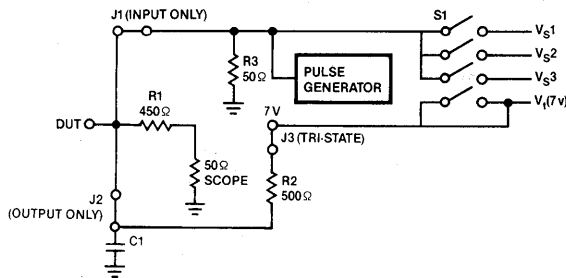

Figure 5. Signetics PCB Fixture Schematic
There are two types of signal lines on this fixture: input and output; both of which are 50Ω transmission lines. The input line is on the top side of the board and is always terminated in 50Ω . It is connected to the DUT via a .3" jumper, Jumper #1 for input. When this jumper is installed, the DUT pin is available only as an input. To allow this line to be used as an output, a .1" jumper, Jumper #1 for output, is used instead of the .3" jumper. This connects the DUT pin to the AC load when the DUT pin is an output. See Figure 5.
hard to detect errors into the waveform. The second reason being that most suppliers of these technologies provide data based upon the Low-impedance approach and most large users of these products do so as well. This also allows the fixture to be used for ECL testing since that product uses a totally 50Ω environment. Figure 5 illustrates how this test fixture implements the 50pF/500Ω load schematically.
As illustrated in Figure 5, the load is shared with the 50Ω input of the measurement system; a 50Ω sampling oscilloscope. The 450Ω resistor: R1, is soldered to the socket pin of the device and is in series with the 50Ω input of the scope. Figure 6 illustrates this on the board layout of one input/output pin. This allows virtually a probe tip on the device pin. The load capacitor: C1, is a 33pF ceramic chip capacitor. This is added to the measured value of 17pF of board capacitance, achieving the 50pF value specified for the load. The distance from the pin to the capacitor is .5 inches and is adequate for the testing of these product families.
For testing 3-State parameters, the 500Ω resistor: R2, is connected to it's pullup supply. V_i via a .3" jumper: Jumper #2. The V_i supply is bussed to each pin and may or may not be connected with that jumper. See Figures 5 and 6.
When the input is not used for a signal input, the line may be switched to one of three voltage sources: V_S 1 through V_S 3, by the use of a DIP switch on each pin. It may also be left open and then the 50Ω pulldown resistor: R1, pulls the line to ground and can be used as a hard low level. See Figure 5. These voltage levels are brought in from external supplies through banana connectors like V_{CC} . This scheme eliminates excessive cabling to each input to provide the static input levels and thereby reduces parasitic inductances and cross-talk. Each of the 3 busses and the V_I bus all have places for bypass capacitors in the event of noise on the static levels. Figure 8 illustrates the DIP switch and SMB connectors and how they control the input stimulus and output measurement.
dedicated fixture. However, on a dedicated fixture, the pins are individually constructed to be either an input or an output, and in so doing, the fixture is usable for 1-to-4 devices. The Signetics fixture, once dedicated to a particular V_{CC} and GND configuration, is built up to have both input and output components on all signal pins. The selection of which pin is an output or an input is made by inserting the appropriate jumper, See Figures 5 and 6. The same applies in doing tri-state testing. The tradeoff here is that it would probably take less time to setup the dedicated fixture than the Signetics fixture. To help compensate for that tradeoff, we have the three V_S supplies that may be switched into any pin to provide input static levels and eliminate the need to bus input High or Low levels by external cabling. For the user that means the only connections being made to the fixture are:
- the V_I supply (banana jack): this is the 3-State pullup voltage and is permanently connected to the bus to each pin. It is selectable by Jumper #2, see Figures 5 and 6. For FAST and ALS products this is 7V. For ACL products this is $V_{CC} \times 2$ and it is not used for ECL applications.